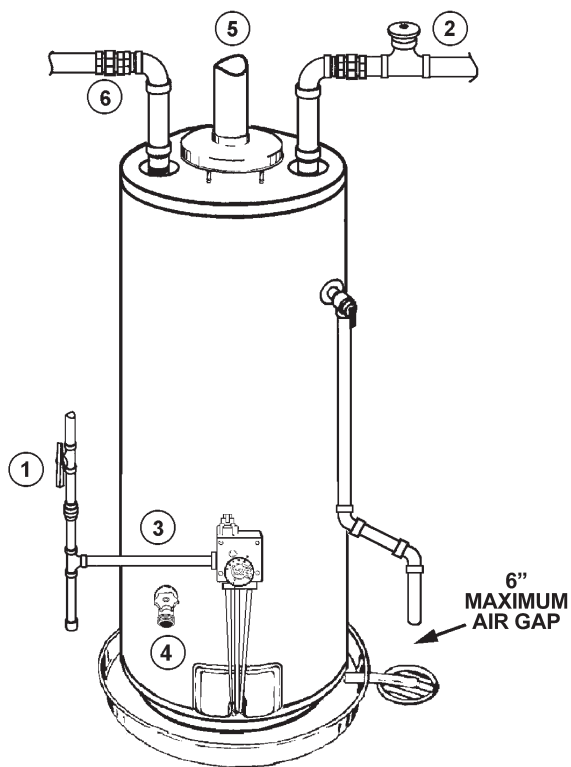

FIGURE 2.
If the main gas line Shut-off valve serving all gas appliances is used, also shut "OFF" the gas at each appliance. Leave all gas appliances shut "OFF" until the water heater installation is completed, see Figures 2 and 3.
2. Turn "OFF" the water supply to the water heater at the water shut off valve or water meter. Some installations require that the water be turned off to the entire house, see Figures 2 and 4.
4. Attach a hose to the water heater drain valve and put the other end in a floor drain or outdoors. Open the water heater drain valve. Open a nearby hot water faucet which will relieve pressure in the water heater and speed draining. The water passing out of the drain valve may be extremely hot. To avoid being scalded, make sure all connections are tight and that the water flow is directed away from any person, see Figures 2 and 5.